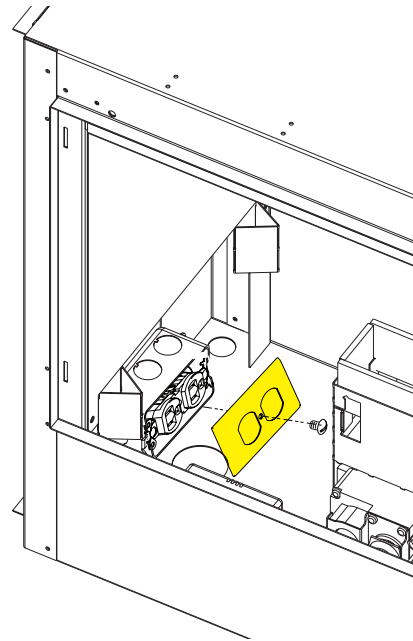

Figure 34
- Install the Junction box cover. **See Figure 34.**